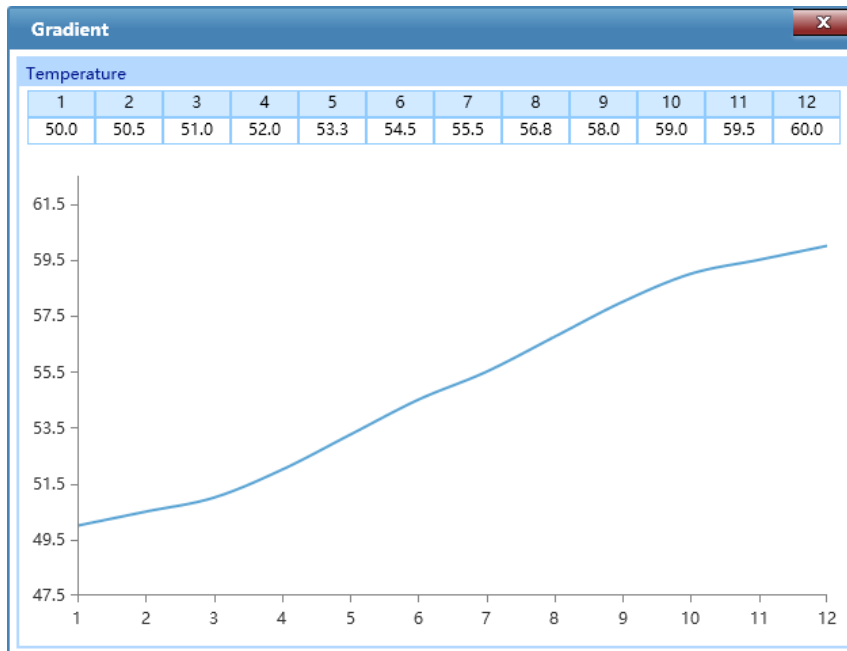

Figure D-5.6e. Step Setting Dialog Box – Gradient Temperature Details
▶ **Details:** User can click < *Details* > to the specific gradient temperatures of each column and the Gradient distribution, as shown in figure D-5.6e.